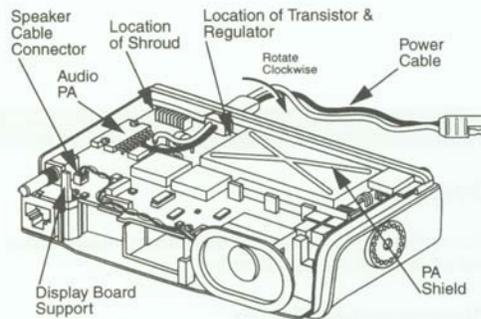

Figure 1-3. Position of Speaker Cable
- Replace the 14 mounting screws and display board support (refer to Figure 1-3) into main board using a T10 Torx driver. Torque the 2 screws on the audio PA and the 2 screws on the transistor and regulator at 6-8 in-lbs. Torque the remaining 10 screws at 8-10 in-lbs.
Power cable should be routed around component properly and gently pressed into position (Figure 1-3).
Speaker cable should be routed in front of the 10-position black header on the main board to prevent the housing's rear hook from dislodging and damaging the speaker connector when replacing the housing (Figure 1-3).